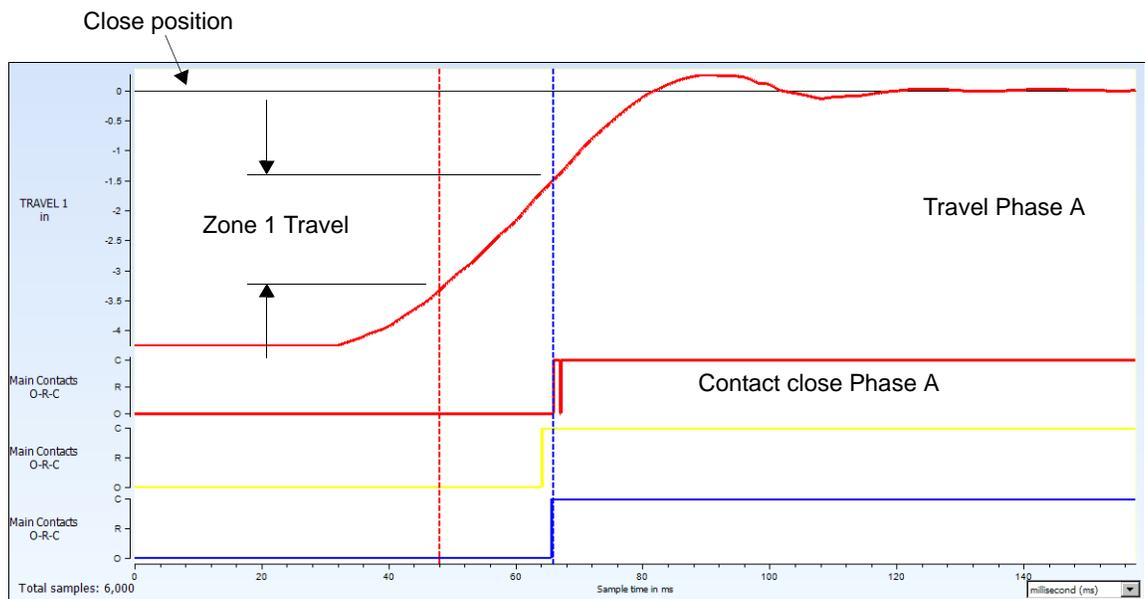

Figure 79 Average Velocity Travel to Close Phase A
- Travel to Close—The circuit breaker's average velocity is calculated for the interval between the contact make and the travel that occurs before the point of contact make (Figure 79). Unlike distance, travel references the point of contact make and not the fully closed position.